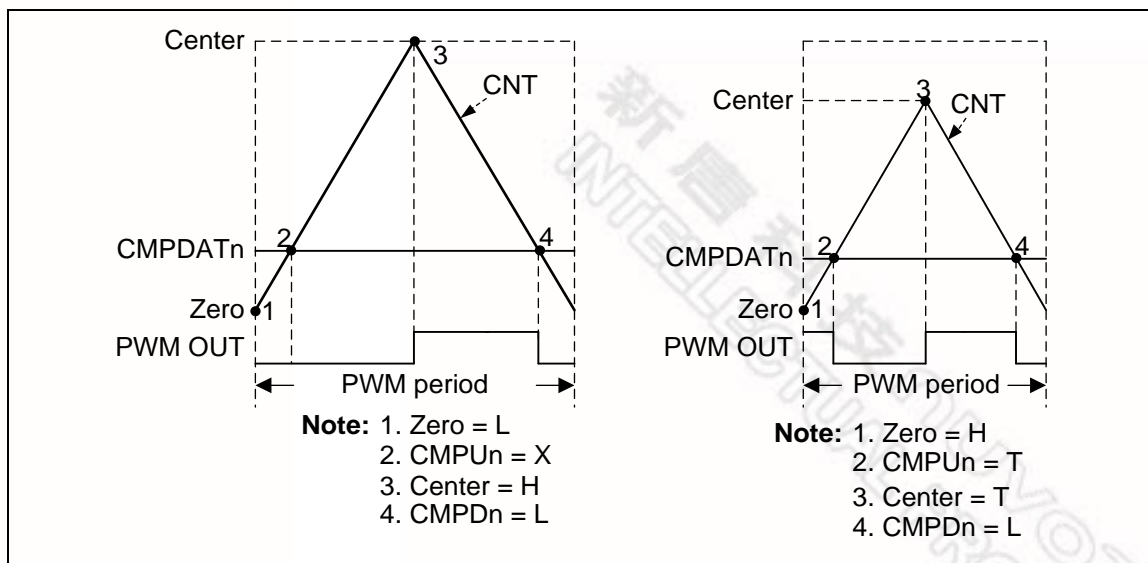

Figure 6-70 BPWM Pulse Generation
Each event point can decide BPWM waveform to do nothing (X), set Low (L), set High (H) or toggle (T) by setting BPWM_WGCTL0 and BPWM_WGCTL1 registers. Using these points can easily generate asymmetric BPWM pulse or variant waveform as shown in Figure 6-70. In the figure, there is a comparator n to generate BPWM pulse. n denotes channel number 0 to 5. CMPU denotes CNT is equal to CMPDAT when counting up, CMPD denotes CNT is equal to CMPDAT when counting down.